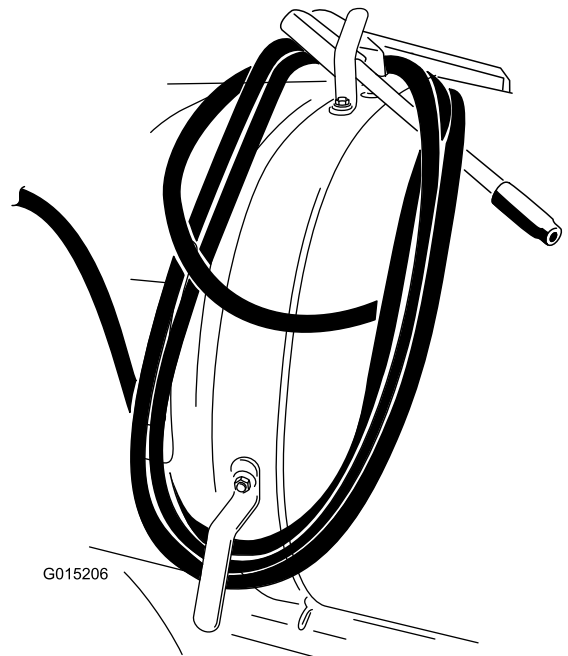

Figure 12
3. Wrap the hose around the hooks of the tank and secure the gun as shown in Figure 12.